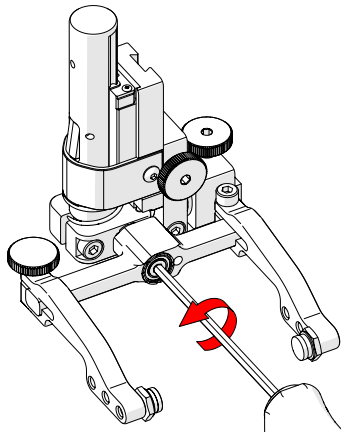

Fig. 158 - Unscrew yoke pivot screw
2. Using the supplied 3 mm hex driver (Fig. 50), unscrew the yoke pivot screw and remove yoke (Fig. 158).